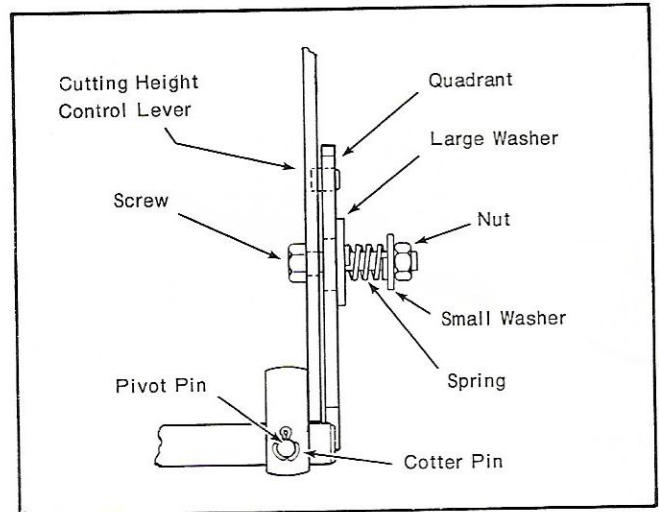

Figure 2
3. Slide cutting height control lever onto rear roller adjustment shaft on mower housing. Secure in place with pivot pin and 1/8 x 1/2 cotter pin. (Be sure head of pivot pin is towards rear of deck). Line up hole in lever with long hole in quadrant and secure with 3/8-16 x 2 screw, large washer, spring, small washer, and nut (See Fig. 2).